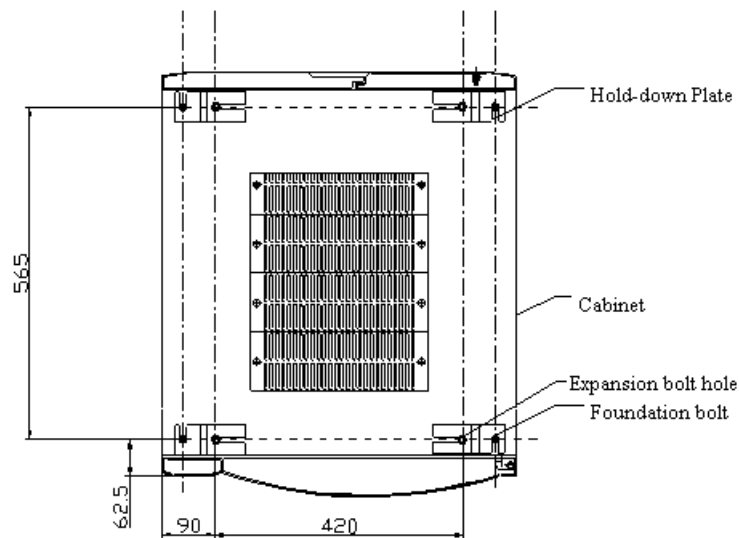

Figure 2-5 Bottom of the cabinet
(3) Do not tighten the expansion bolts so that the installation accessories can be moved. Install the cabinet in the preset position, and then rotate the accessories to move the U-shape opening on the corresponding round steel bar of the cabinet support, as show in Figure 2-5.